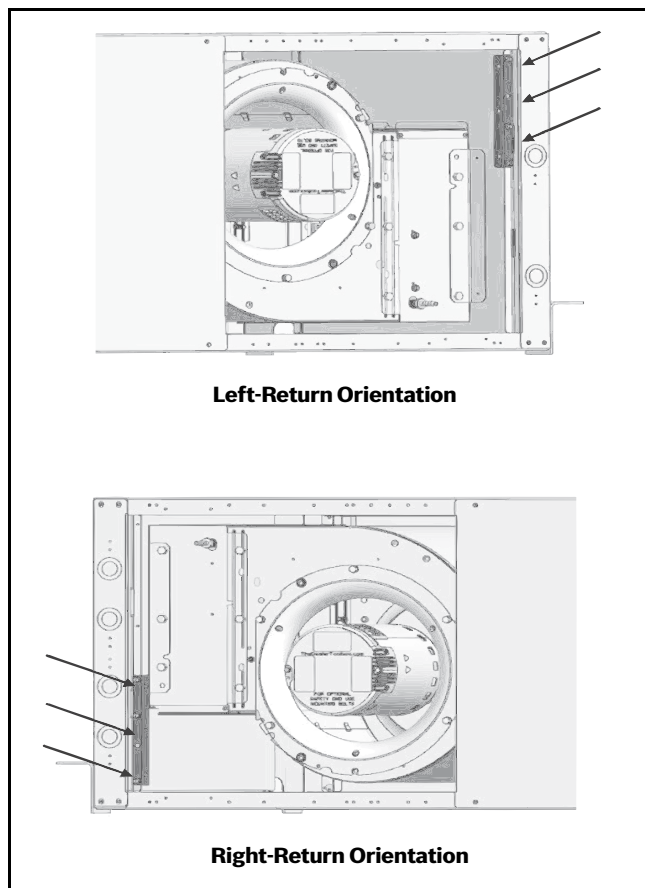

Fig. 34 HZ E-Heat Control Box Mounting Bracket Location
1. Locate the e-heat control box mounting bracket and install it to the blower electrical corner post by fastening with three screws. (→ Refer to Fig. 34.)
3. Mount the e-heat control box by aligning the holes of the control box's flanges with holes in the previously mounted e-heat control box mounting bracket and fasten with three screws. (→ Refer to Fig. 34.)